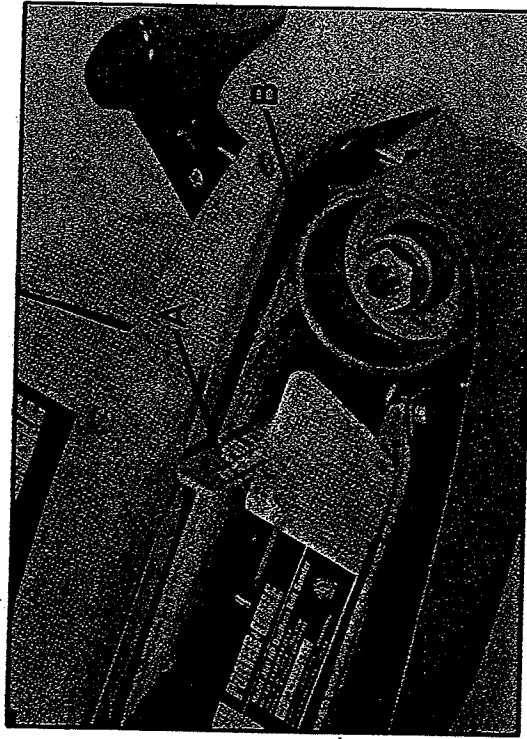

Fig. 1
2. Lay sander on its left side, Fig. 1.
3. Pull lever (A) out and towards front of machine as shown. This retracts idler pulley (B) and releases tension on abrasive belt.
6. Engage front pulley by pushing lever (A) back to its original position.